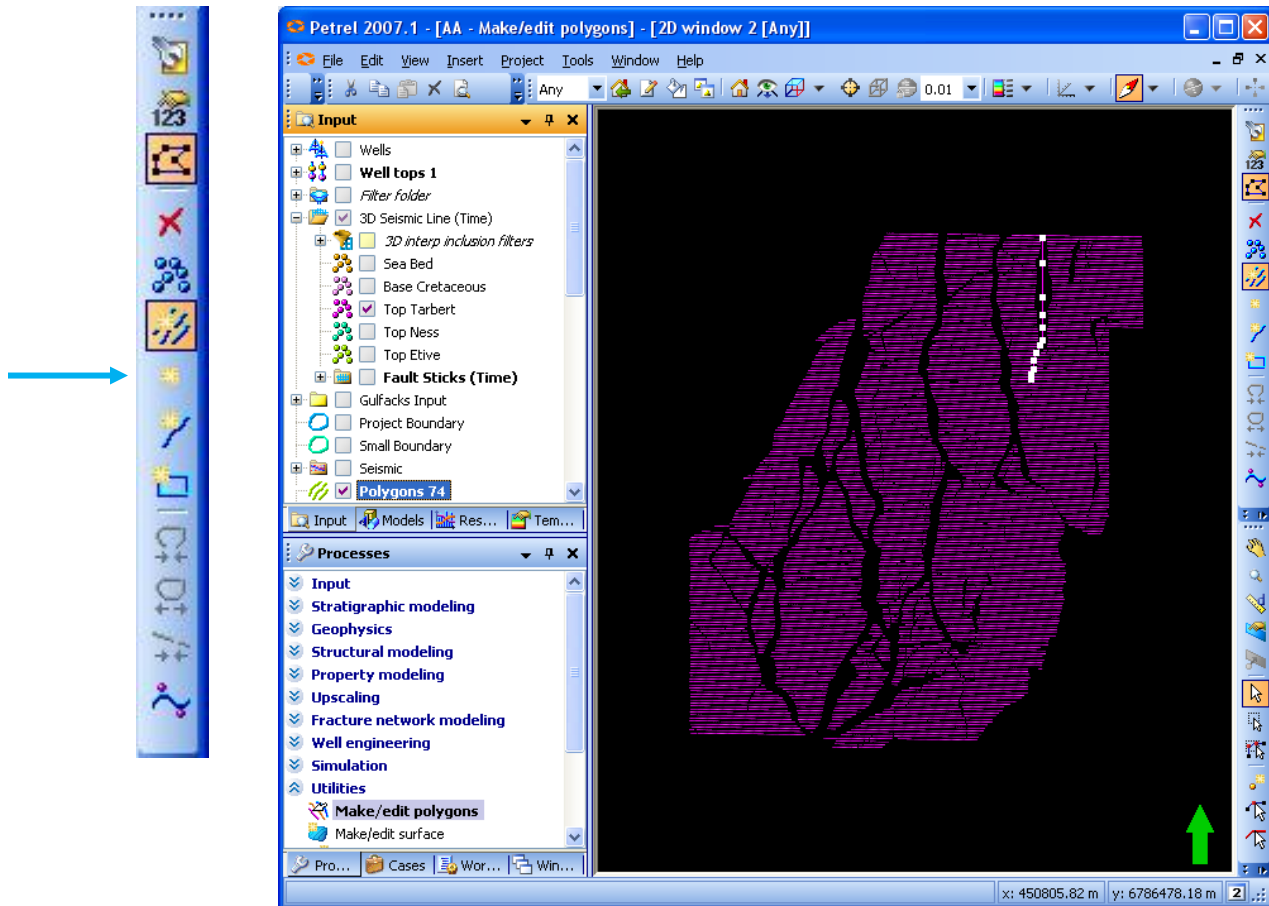

Fig.9.21: Creating fault polygons of the **Top Tarbert** surface with Tool bar
3. The **Polygons Actions** toolbar displays. Click on the **Start New Set of Polygons** to start tracing a new set of fault polygons for the **Top Tarbert** surface. Every time you start a new fault, you must click the **Start New Set of Polygon** icon as shown in Fig. 9.21.